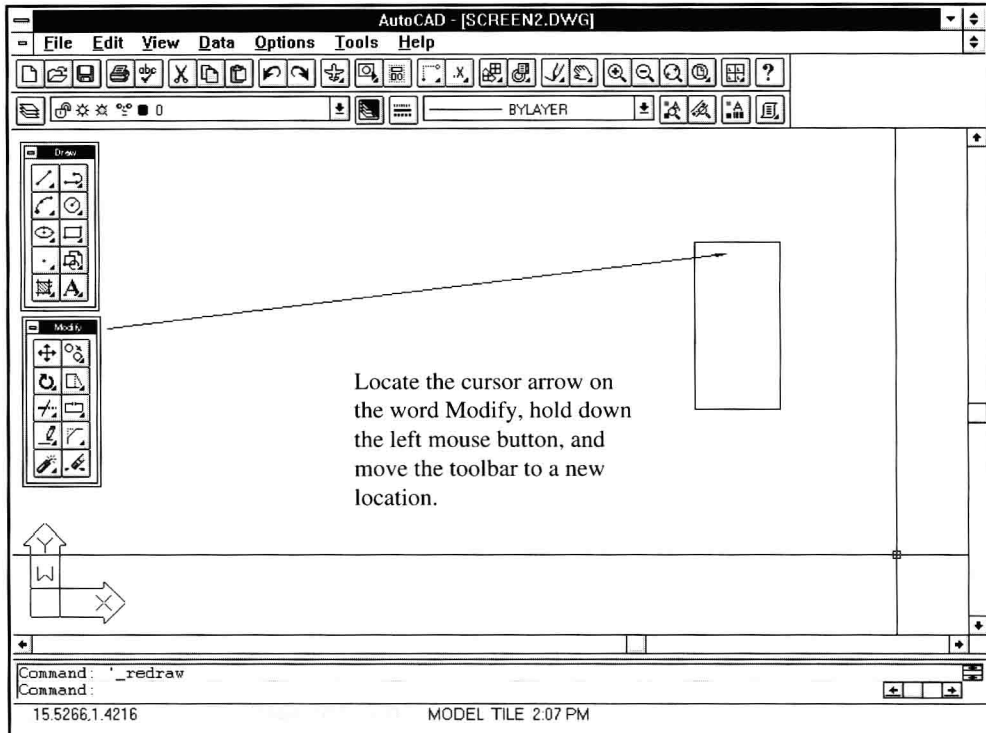
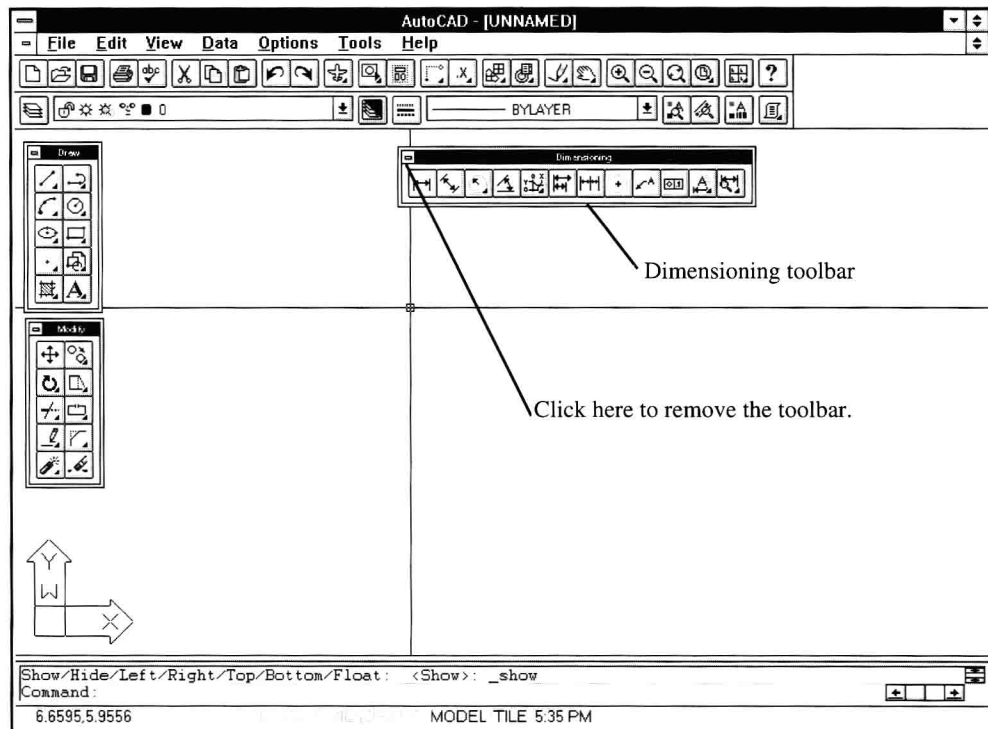

Figure 1-2
Figure 1-5
tangular boxes of command icons, located along the left edge of the drawing screen, are the Draw and Modify toolbars. They can be moved around the screen as shown in Figure 1-2.
See Figure 1-2.
2. Move the reshaped toolbox to its original location along the left side of the drawing screen using the procedure outlined in Figure 1-2.
The Dimensioning toolbar will appear. See Figure 1-5. Any toolbar can be moved or have its shape changed as described in Figures 1-2 and 1-3.